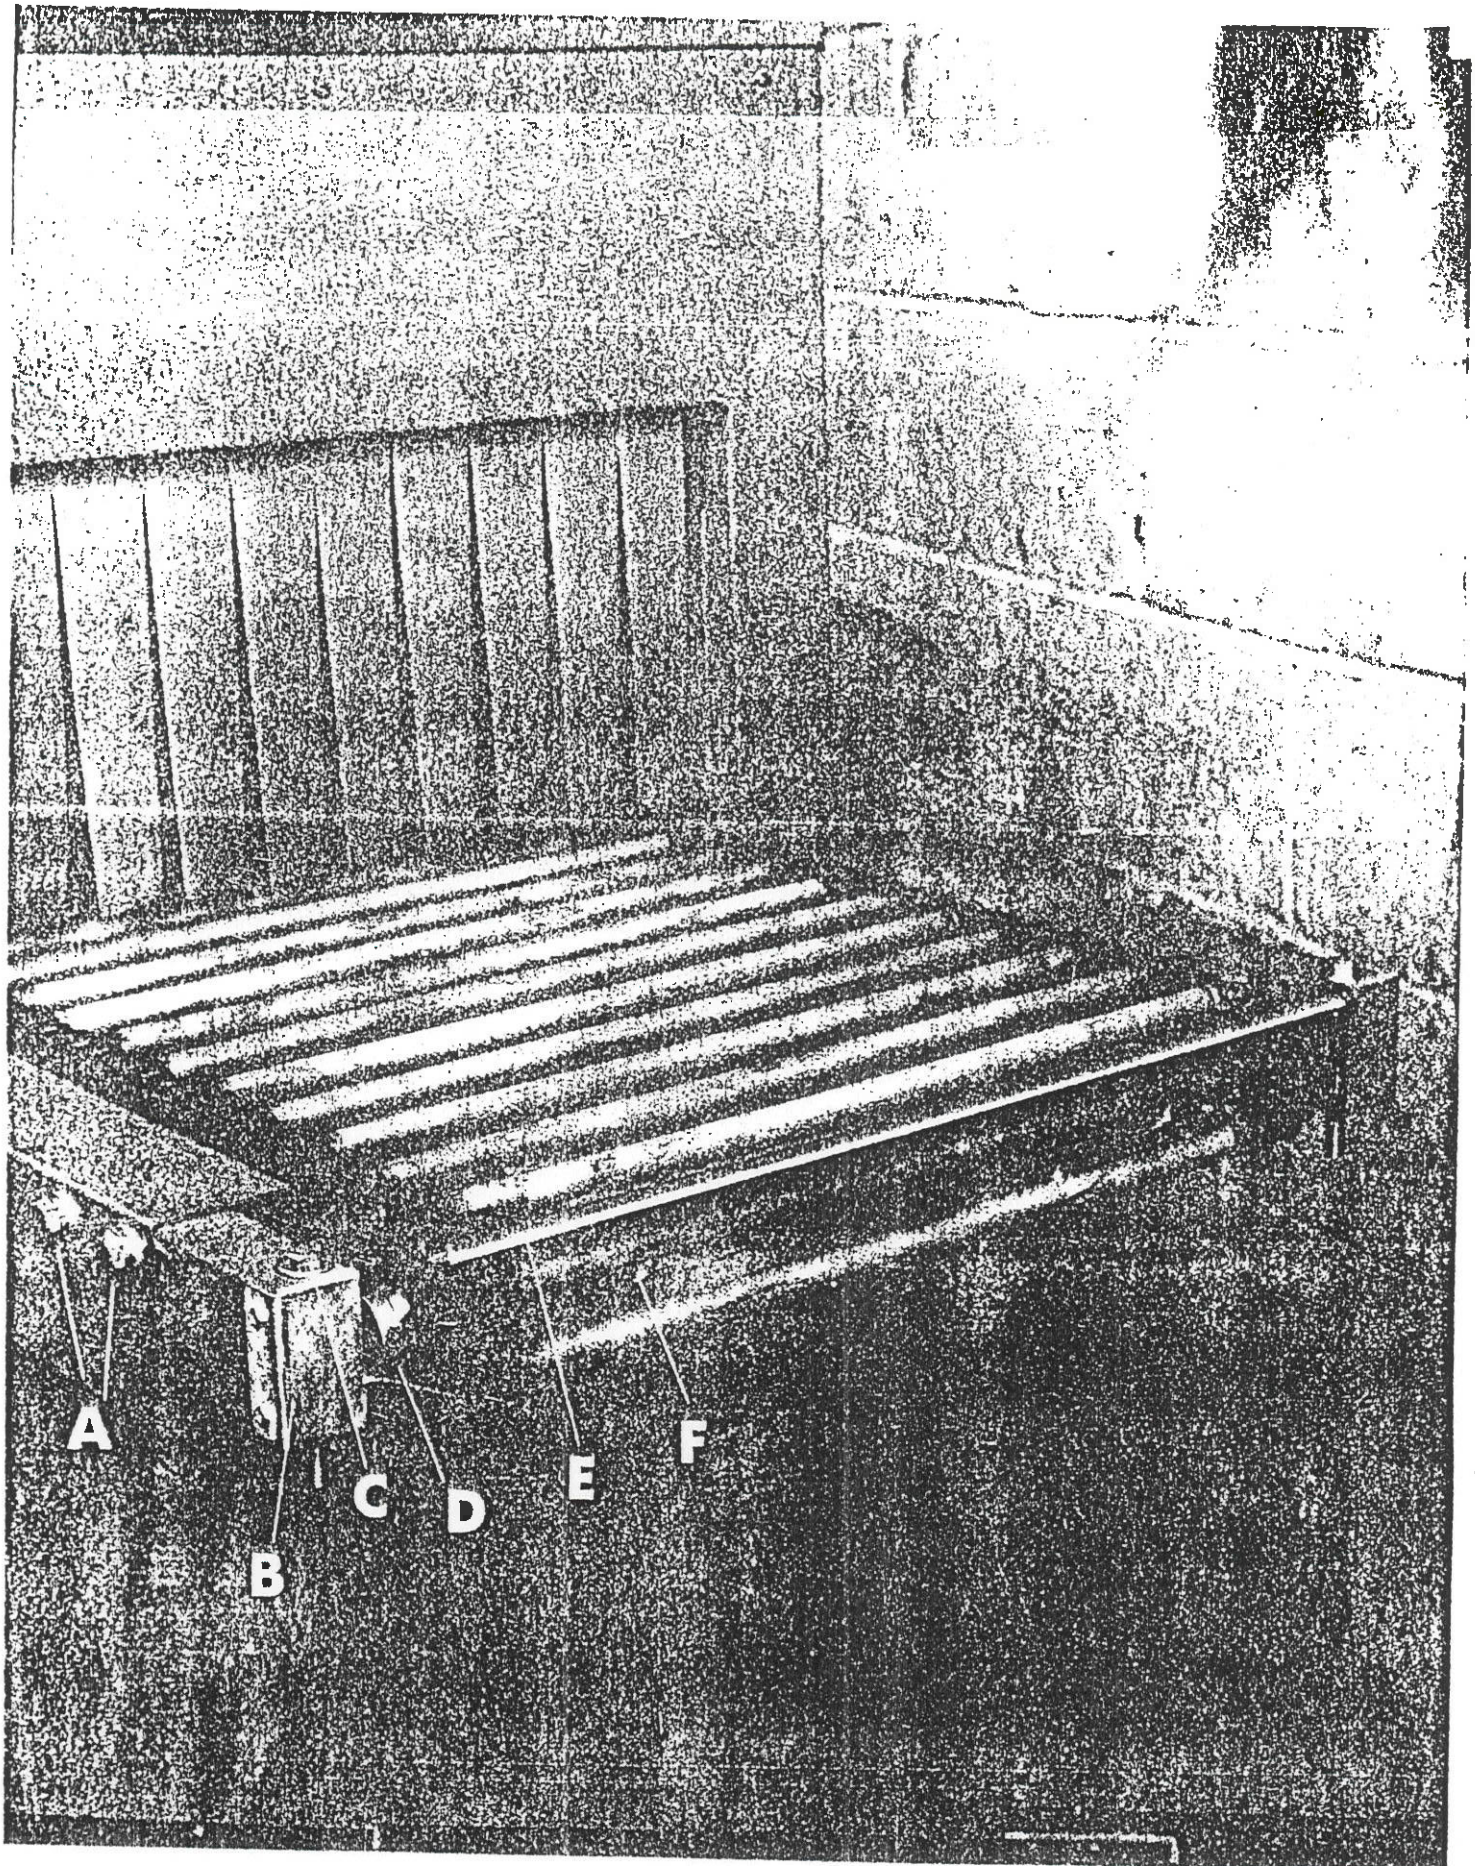

Figure 4-2. Conveyor Maintenance
To check or adjust tension, shut off power to the tunnel. Lift both conveyor chains with the fingers and judge the tension. It should allow lifting of the chains approximately one-inch at a point about 6-inches from the sprockets at either end of the machine. both chains should have approximately the same tension. If it is necessary to adjust the tension, refer to Figure 4-2. Loosen all 4 bolts "A". Extend or retract the extension frame to achieve proper tension of both conveyor chains. Tighten all 4 bolts to retain proper tension.
- b. Remove the joining links from both chains. Both chains are now open. Refer to Figure 4-2. Using an Allen-wrench, loosen both screws "D" and raise idler roller "E" to a vertical position. Pass both conveyor chains under the roller and swing the ends of the chains down so the chains hang down the infeed end of the tunnel.
- c. Using a Phillips-head screwdriver, remove both end-plates "B" of Figure 4-2. Using a wrench, loosen and remove both bolts "C" and their locking jam-nuts from the idler shaft. Remove the entire shaft, sprocket and idler-roller assembly from the tunnel.
- e. Examine the bearings in both sprockets. If required, replace both sprockets. Install all components of the shaft, in the manner shown in Figure 4-2.